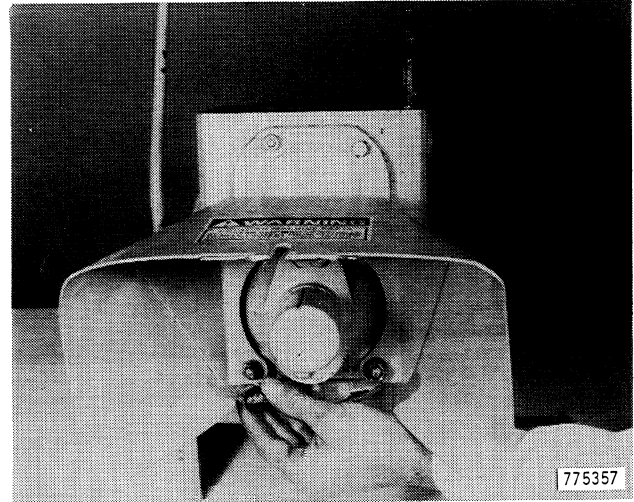

Figure 94
44. Install nuts and lock washers on PTO guard mounting studs, Figure 94.